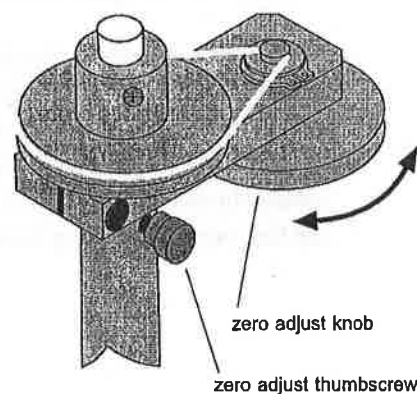

Figure 10
- d. If the spots on the projection surface (the laser beam reflections) are not aligned vertically, loosen the zero adjust thumbscrew, turn the zero adjust knob slightly to refine the rotational alignment of the pendulum bob arms (Figure 10), and wait until the movement of the pendulum stops or nearly stops.